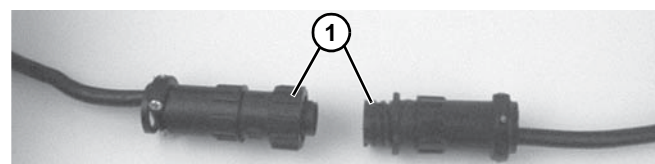

Figure 28
- For DC variable speed motor, unplug motor cord at disconnect (**Figure 28, item 1**).